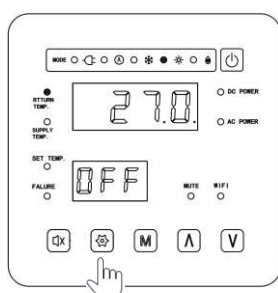

Fig.9 Entering setting interface
- ① In the main interface, short press “” for entering the user setting interface. After selecting parameter group “UU” by short pressing “” or “”, click “” to enter WIFI network function, while the WIFI indicator blinking (Fig.9~11);